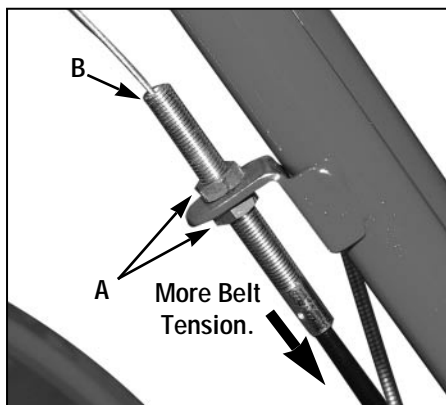

Figure 5-12: Move forward clutch cable adjuster down for more belt tension.
2. Belt adjustments are done with the forward clutch cable adjuster (F, Figure 5-11). Use two 1/2", open-end wrenches to loosen the two jam nuts (A, Figure 5-12) a few turns.
3. Move cable adjuster (B, Figure 5-12) downward for more belt tension (see Figure 5-12).